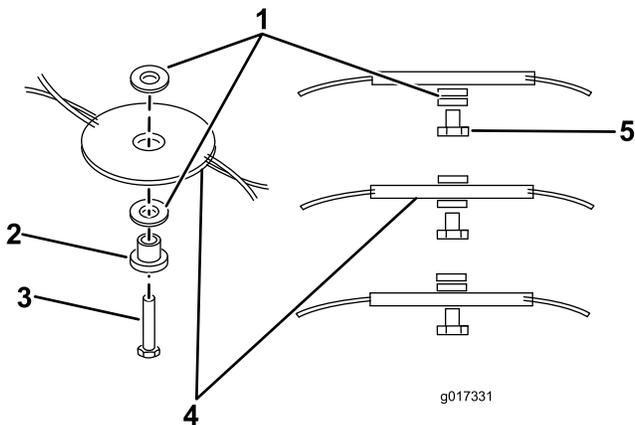
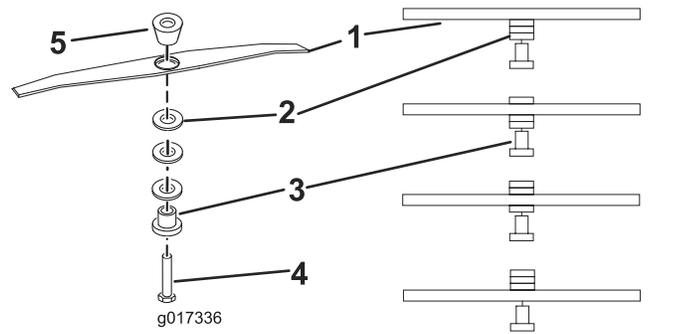

Figure 12
Figure 13
6. Reposition the spacers to the desired height, then reinstall the flexiblade/cutterbar (Figure 13, Figure 12).